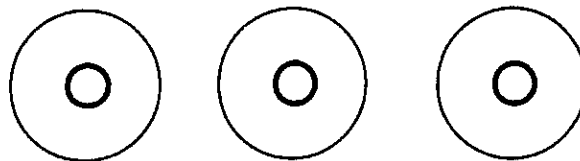

Figure 3 - Isolated Phase Bus Cross Section
- (3) Isolated phase bus (Refer to Calvert Catalog IPB). Each phase conductor is enclosed by an individual metal housing separated from adjacent conductor housings by an air space. (Figure 3)